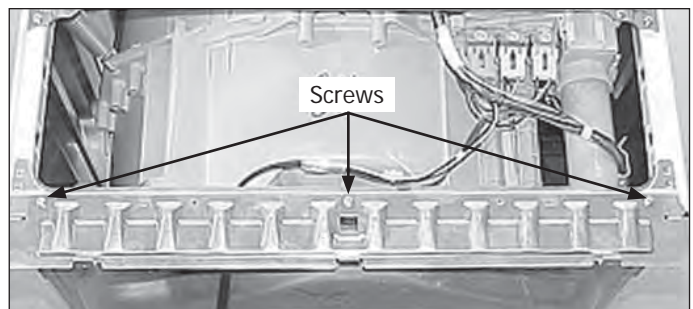

Figure 4-57.
2. Using a #2 square bit screwdriver, extract the three screws from the rear of the top rear brace. (See Figure 4-57)